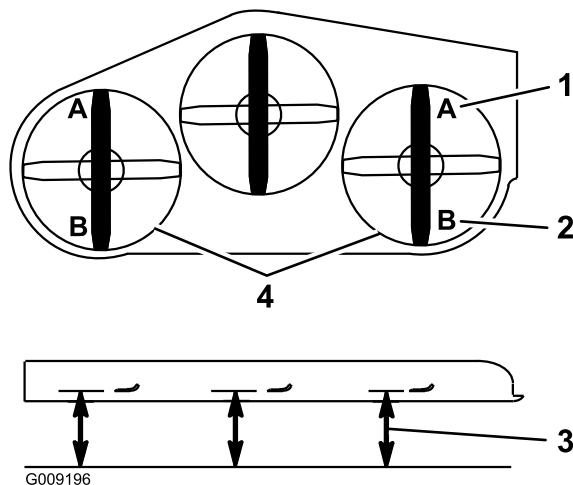

Figure 117
9. On both sides of the deck, measure from the level surface to the front tip of the blade (Position A) as shown in Figure 117.
15. On both sides of the deck, measure from the level surface to the back tip of the blade (position B) as shown in Figure 117.